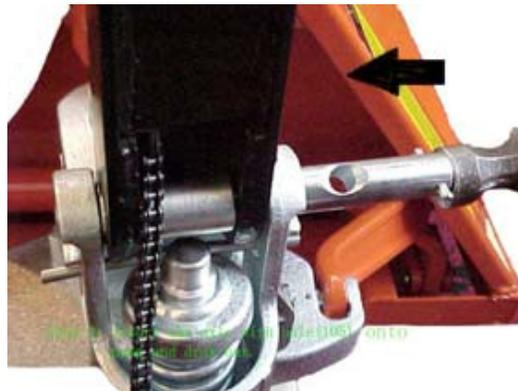

Fig. 2
2.2.1 Insert the Draw-Bar onto the Pump Piston (303), then use a hammer to insert the Axle with Hole (105) into the Hydraulic Pump and Draw-Bar **from the right to left** (from the perspective of standing behind the unit). (See Fig. 2).